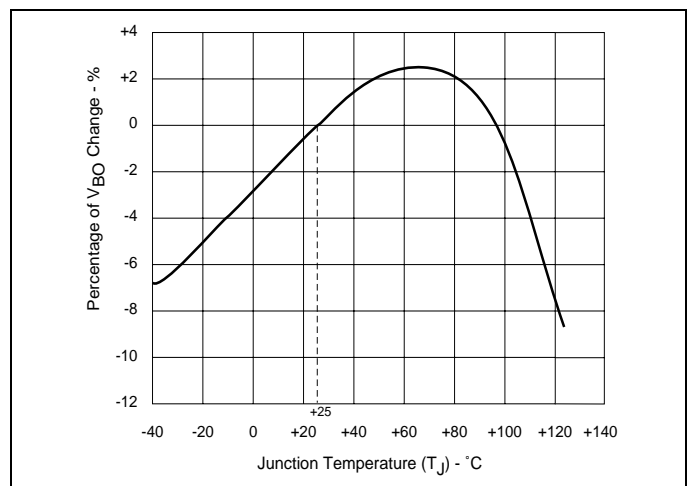

Figure 9.6 Normalized  $V_{BO}$  Change vs Junction Temperature
- See Figure 9.6 for  $V_{BO}$  change vs junction temperature.